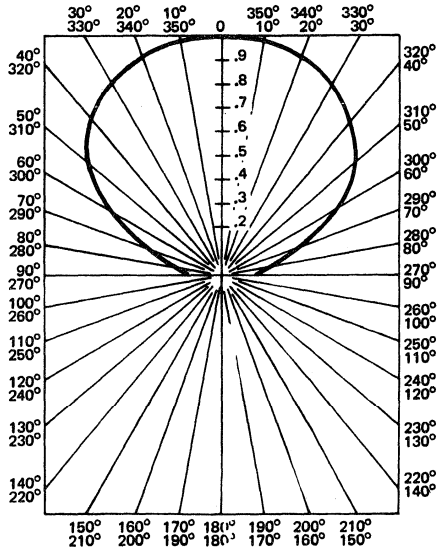

FIGURE 18. Relative Intensity-Angular Displacement For TIXL12, 13, 14, and 15
**Relative Intensity:** Polar plots of typical relative intensity versus angular displacement are presented in Figures 18 and 19. Figure 20 presents what a reflector can do in aiding the designer when a narrow beam is required.